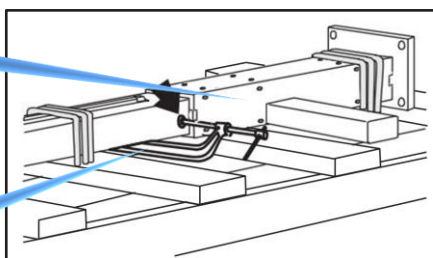

Figure 9, Attach
3. Install a C-clamp on the column as shown (Figure 9) to prevent the slide assembly from moving during assembly.